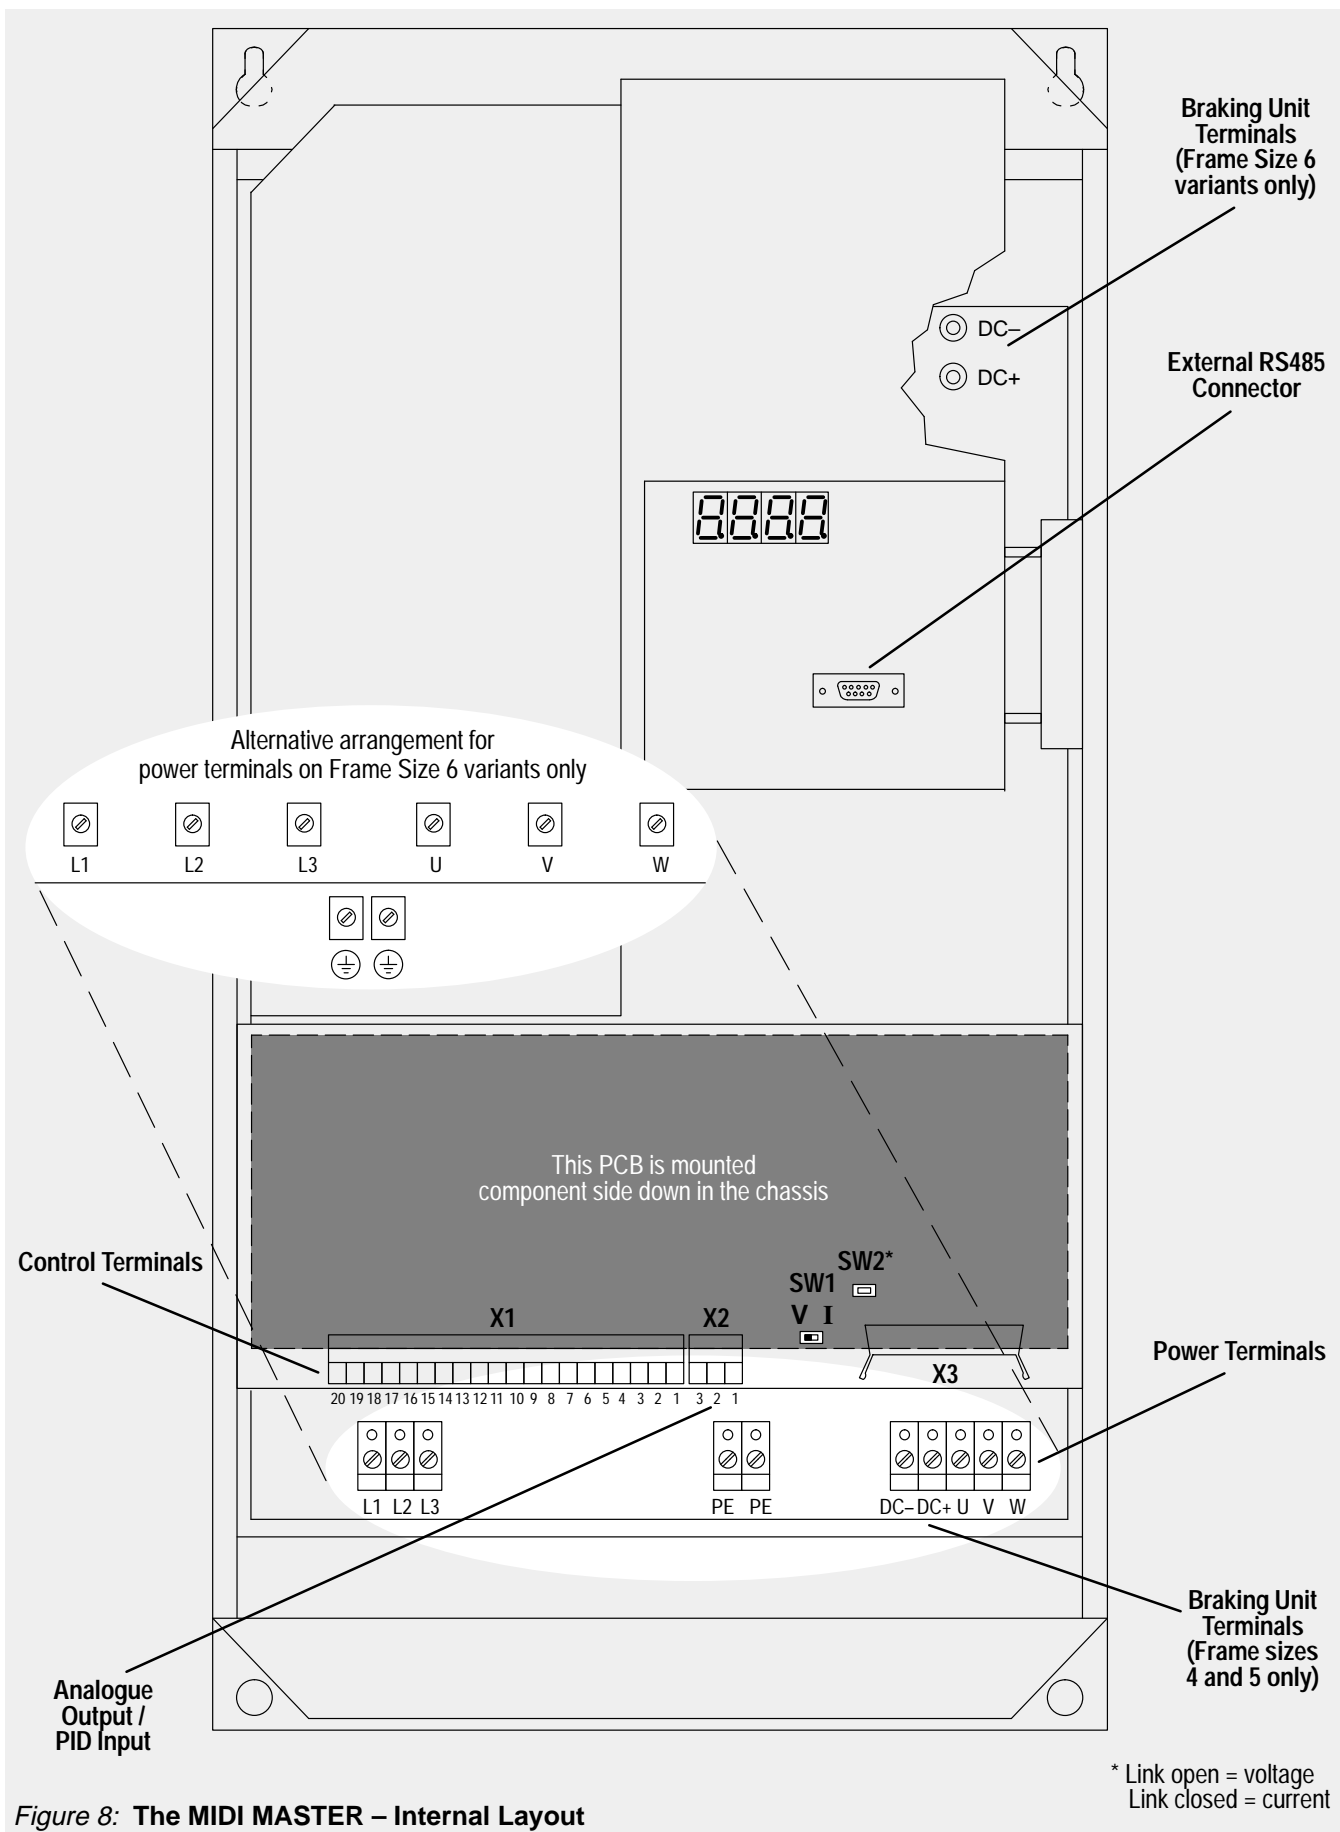

Figure 8: The MIDI MASTER – Internal Layout
The cover must be removed to connect the electrical leads. The cover on the MIDI MASTER is attached to the heatsink by four or six M4 screws, depending on the variant. Remove each of the screws and then lift off the cover. The electrical terminals are now exposed (see Figure 8).
Switch SW1 selects between voltage (V) and current (I) analogue inputs. Switch SW2 selects either a voltage (link open) or current (link closed) PID feedback signal. These switches can only be accessed while the cover is removed (see Figure 8 for location).